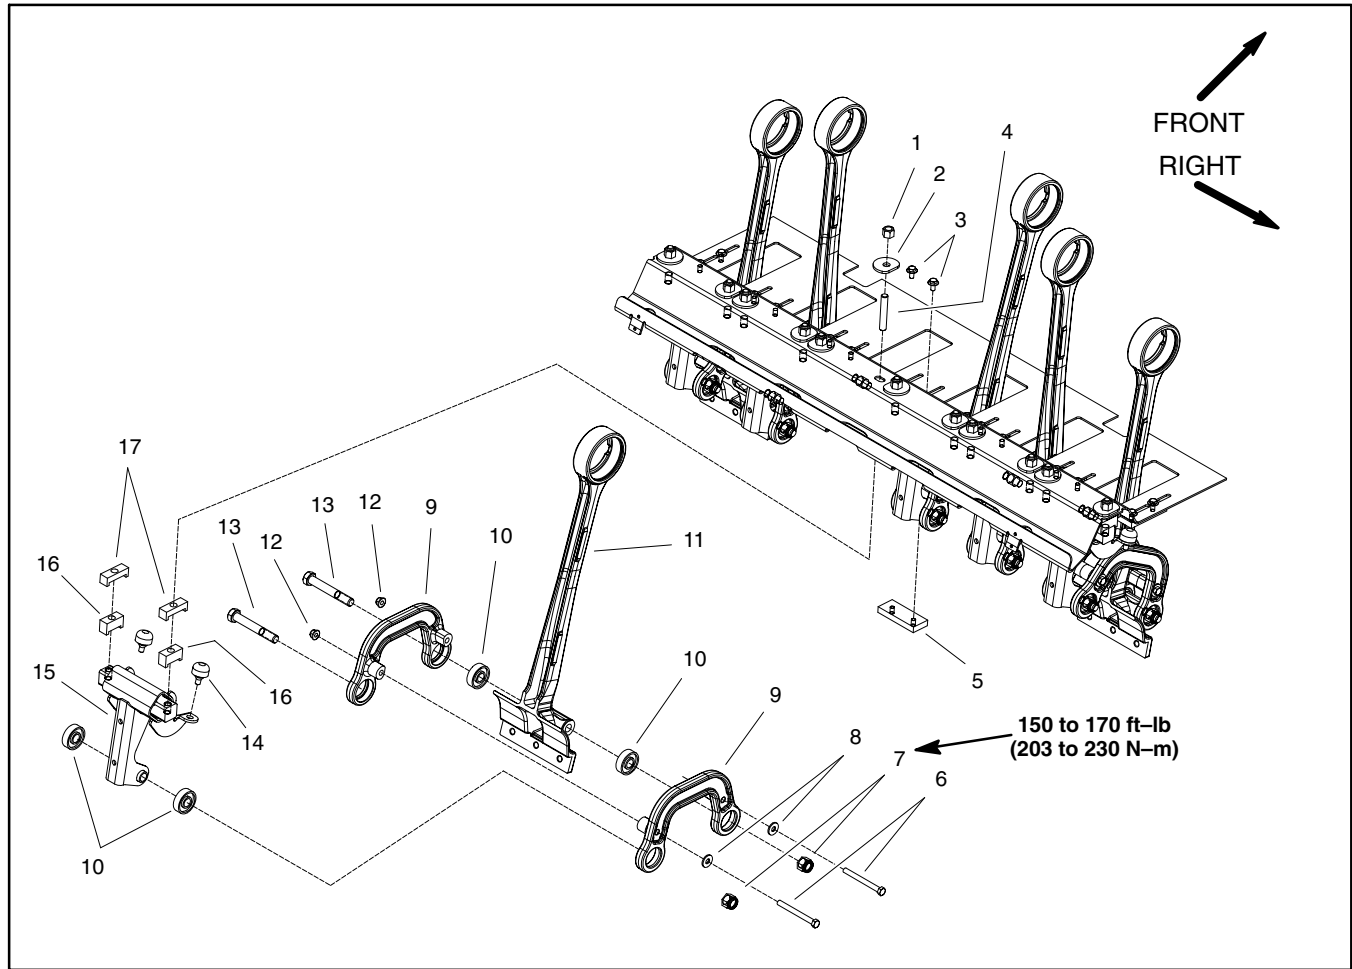

Figure 4
Disassembly (Fig. 4)
2. Remove rotolink components as needed using Figure 4 as a guide.
Assembly (Fig. 4)